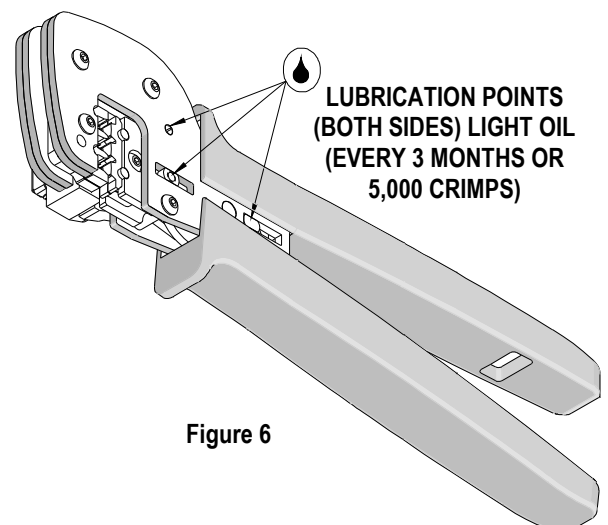

Figure 6
3. Make certain all pins, pivot points, and bearing surfaces are protected with a thin coat of high quality machine oil. Do not oil excessively. The tool was engineered for durability but like any equipment it needs cleaning and lubrication for a maximum service life of trouble free crimping. Use light oil (30 weight automotive oil), at all the oil points, every 5,000 crimps or 3 months. This will significantly enhance the tool life. See Figure 6.